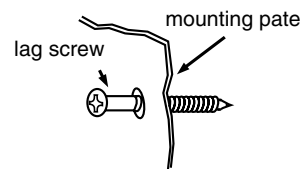

Figure 26
4. Locate the stud holes (3/16") and insert the lag screws through the mounting plate and into the holes. See Figure 26.